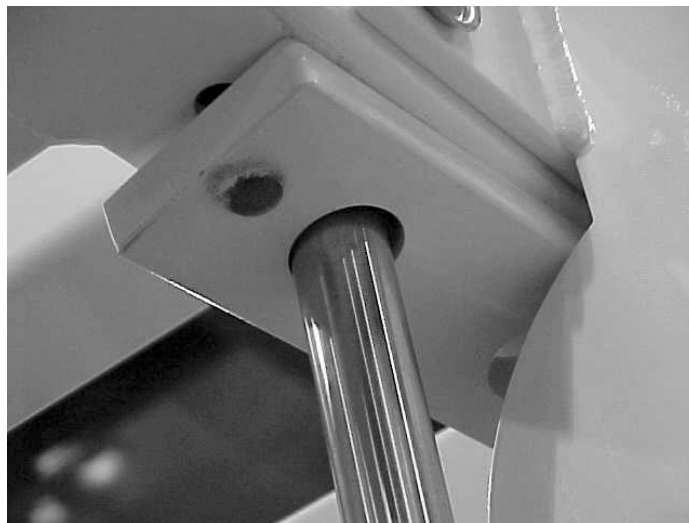

Figure 10. Bolt on the top plate.
- C. **Prepare the weight stack.** Slide the guide rods (2) through the weight stacks (1) as shown below. Place rubber bumpers (3) on the bottoms of each guide rod. Make sure the pull pin (4) is in the bottom weight plate.
- F. With the top plate on the guide rods, bolt on the top plate to the top of the cells as shown in Figure 10 using a 9/16" socket and combination wrench and the 3" bolts (with cap washers) that were previously inserted.